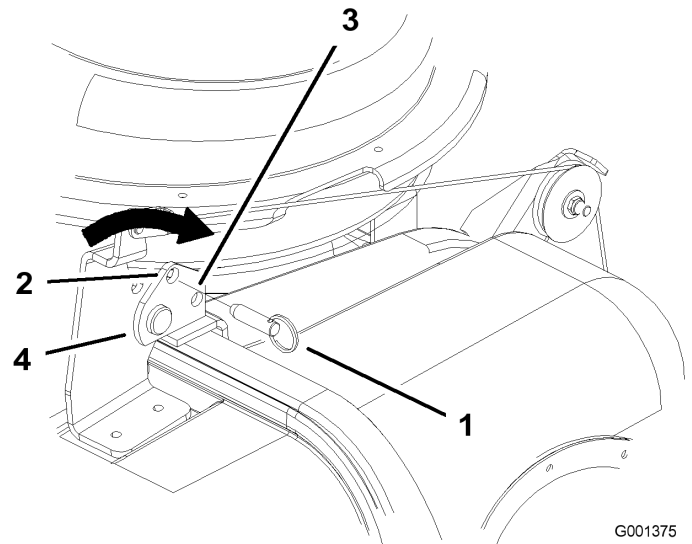

Figure 32
4. With the bagger open, pull out the holding pin and insert into the hole in the hinge (Figure 32).